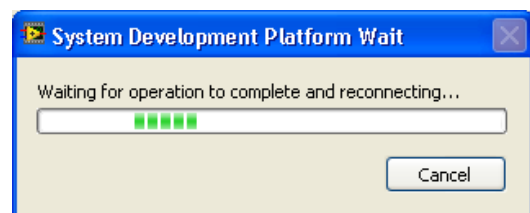

Figure 18. Software Connects to SDP Board
3. After finding the evaluation board, the software connects to the EVAL-ADAQ7980SDZ and displays the pop-up window shown in Figure 18.